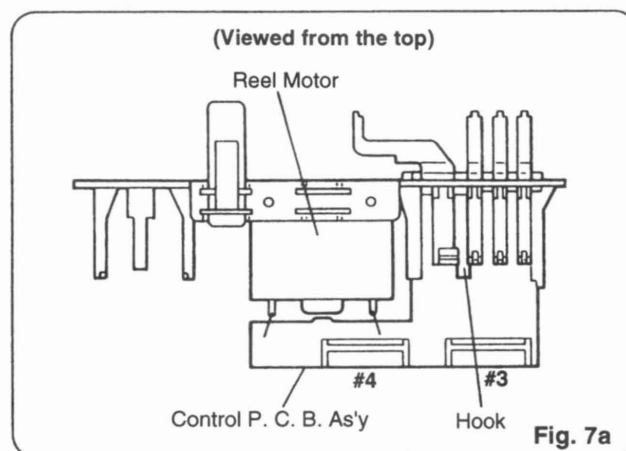

Fig. 7a
- Pull off 1 hook and then remove the Control P.C.B. Ass'y in Fig. 7a.